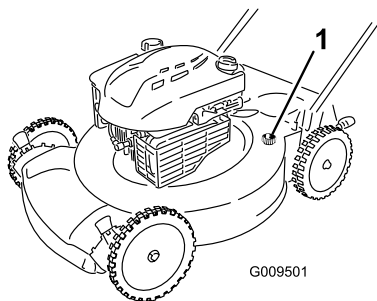

Figure 20
5. Attach a garden hose that is connected to a water supply to the washout port (Figure 20).